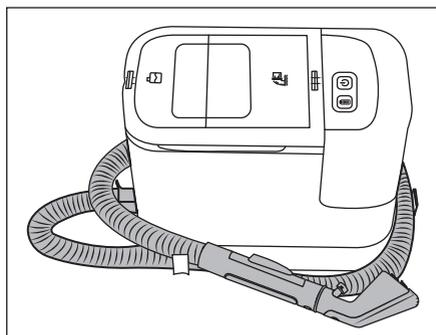

Fig. 10
- ⓘ **Note:** (1) Empty the fresh water tank 2 ① if you are not going to use the appliance for a long period. (2) Always clean the appliance before storage. Please refer to the description in the section **Cleaning and care**.
- ◆ Pull the hose holder 15 out of the appliance. Place the spray/suction hose 19 around the appliance using the hose holders 15/16 (see Fig. 10).